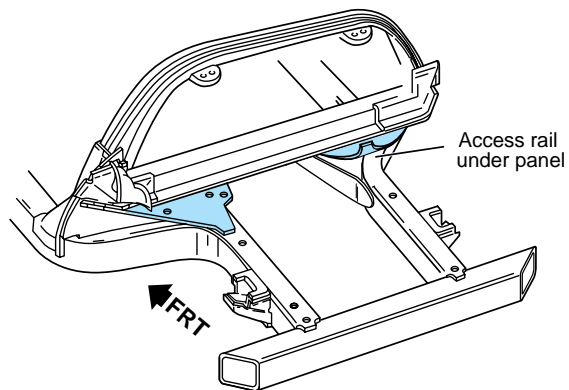

Fig. 3.29 — Pry Up Extension Panel for Rail Access
- 4 The upper extension panel for the fuel tank must be loosened and pried up for access to the rest of the rail for sectioning (Fig. 3.29). (Remove for replacement if damaged.)